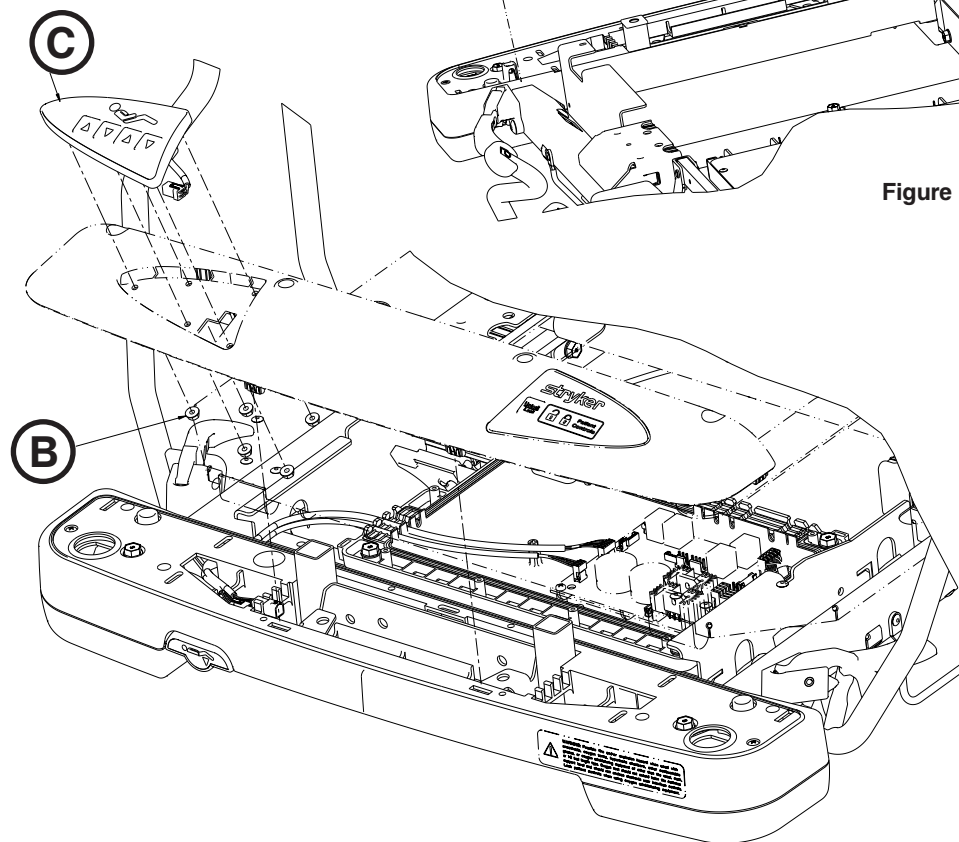

Figure 55
6. Using a 11/32" nut driver, remove the five hex flange nuts (B) that hold the nurse control board (C) to the cover (Figure 55). Discard the control board.